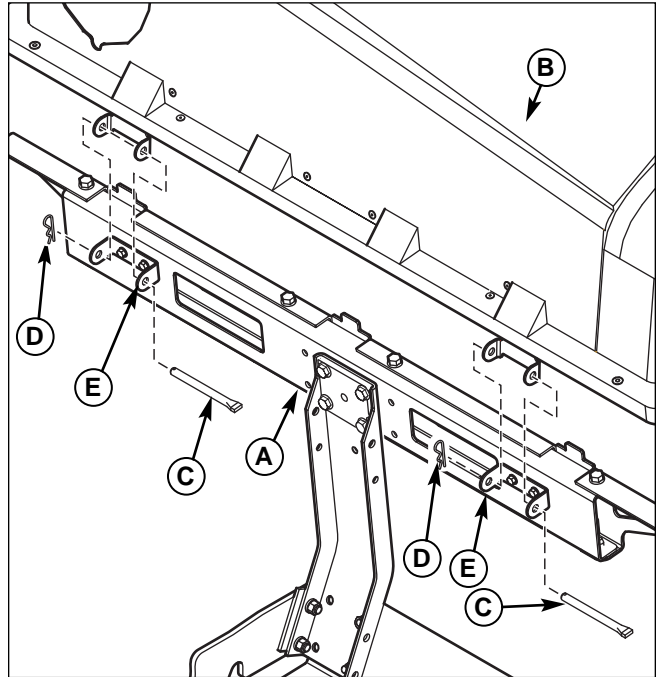

**Figure 10. Install Bag and Cover Support**
1. Install the bag and cover support (B, Figure 10) to upright support (A) using reinforcement plate (C) and 3/8-16 x 1 capscrews (D) and 3/8-16 locknuts (E) as shown.